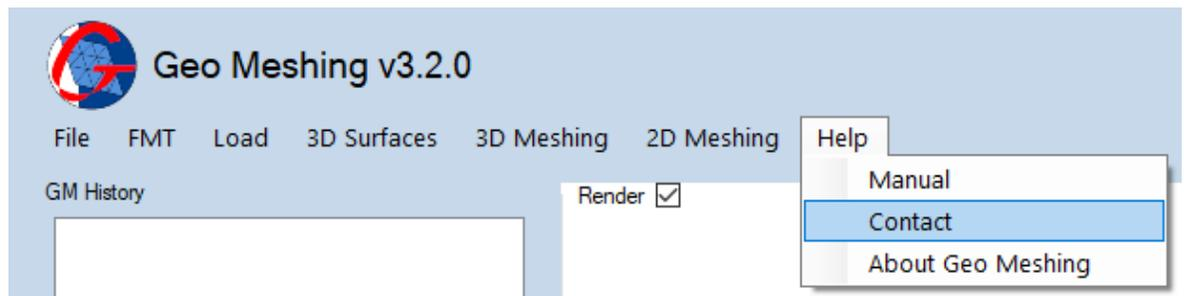

Figure 38: Help Strip Menu – Contact.
- **Help Menu, Contact:** This option (shown in Figure 38) displays support information.